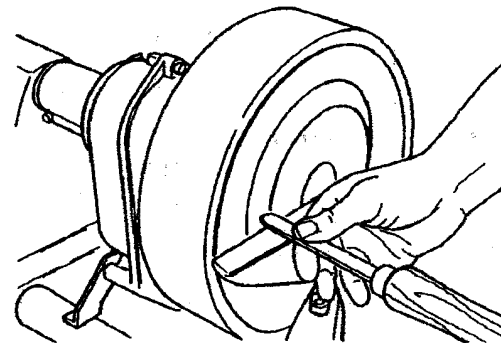

Fig.15
12. Securely tighten the Speed Reducer's carriage clamp assembly (31).
13. Install the tool rest assembly and adjust it so that the outermost point of the turning stock clears the tool rest by no more than 1/4" (see Fig.15). Securely tighten the tool rest assembly.